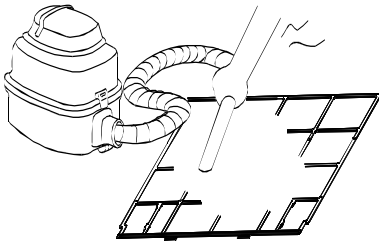

Fig.G3
4. The air-in side should face up when using the vacuum cleaner.(see Fig.G3)